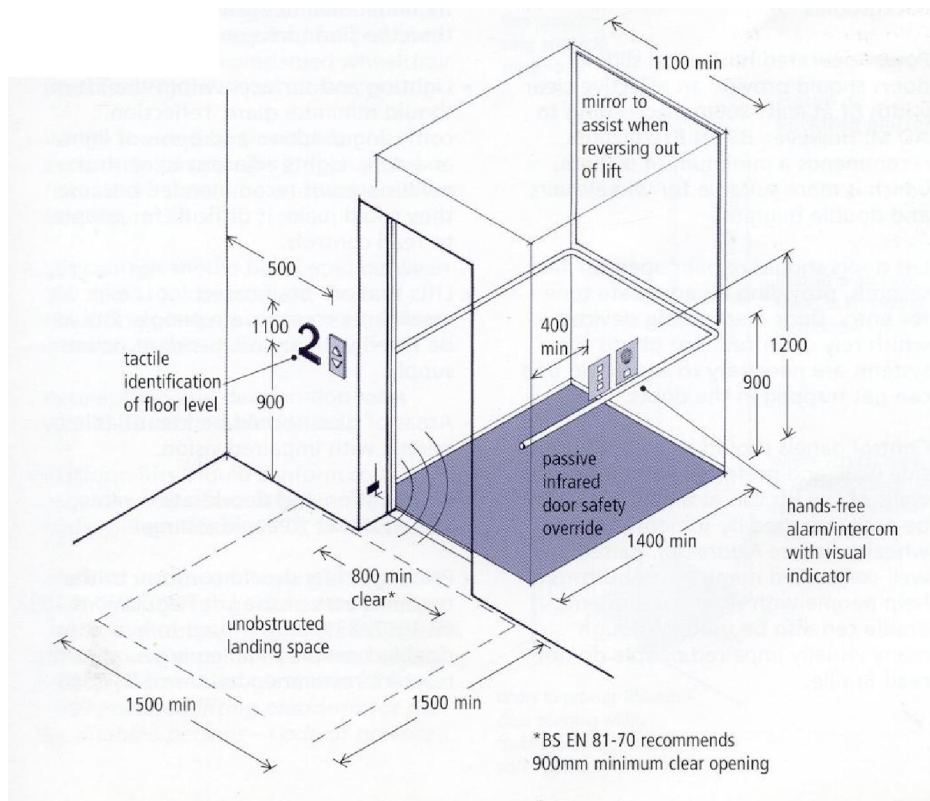

Figure 30
- The minimum lift car dimensions to accommodate a wheelchair user and an accompanying person are 1100mm x 1400mm (see Figure 30). However, these dimensions do not allow a wheelchair user to turn around inside the lift. Therefore, a mirror (bottom edge 900mm from the floor) should be provided in the lift car to enable a wheelchair user to see what level the lift has reached.
- Lifts should be served by landings large enough for wheelchair users to turn to reverse into the lift (Figure 30).
- Control panels should be located on a side wall, and preferably on both side walls of the lift car, at a height that can be easily reached by someone in a wheelchair (Figure 30). Raised and well contrasted numbers on buttons help people with sight impairments; Braille can also be used although it should not be the only form as some people do not read Braille.